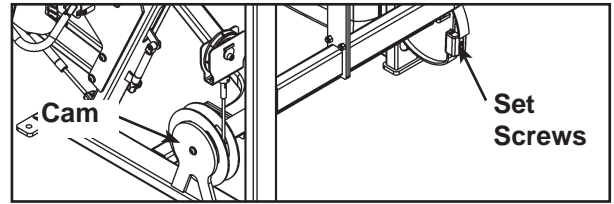

Figure 1
D. Rotate cam and disconnect weight stack belt from cam (by loosening the two set screws on the belt clamp with a 7/32" Allen wrench). See Figure 1.
P. Connect the weight stack belt to the belt clamp of cam (removed in step 4D). See Figure 1.